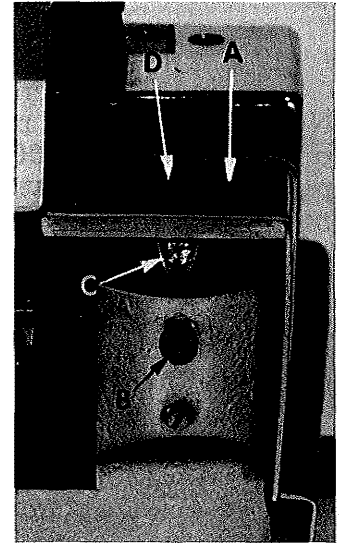

Fig. 17
**CAUTION:** When removing the cloth plate (A, Fig. 17) loosen the cloth plate studlocking screw (B) and lift up cloth plate with the cloth plate stud (C) and cloth plate screw (D), assembled.